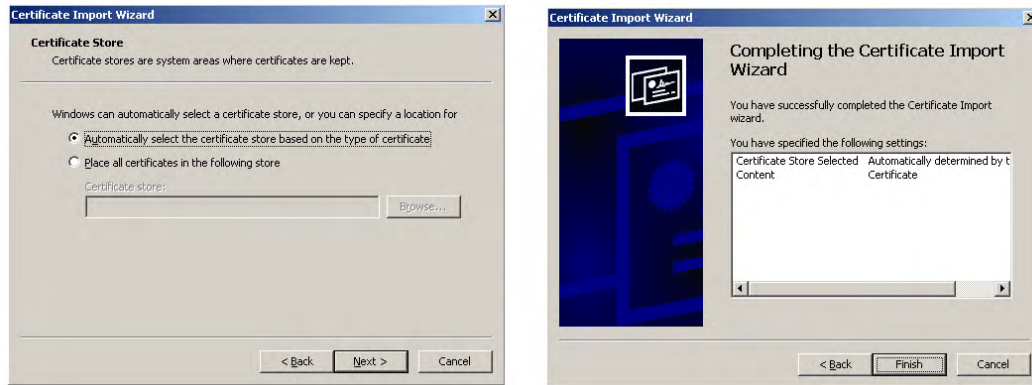

FIG. 88 Certificate Import Wizard- storing the certificate
- Click **Next** to automatically use the default certificate store settings and locations (FIG. 88).